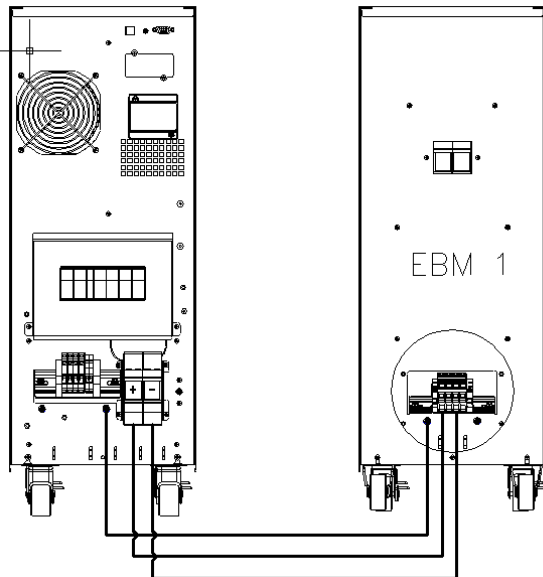

Fig.3-9 EBM terminal connection for 9E6Ki, 9E10Ki, 9E10KiXL With Single EBM
- b - Connect the earth (PE) wire to EBM's earth (PE) screw
- d - Connect the negative (-) branch wire to EBM's negative (-) terminal.The suggested tighten force is 1.6Nm. (Detailed wiring diagram see fig 3-9~10)